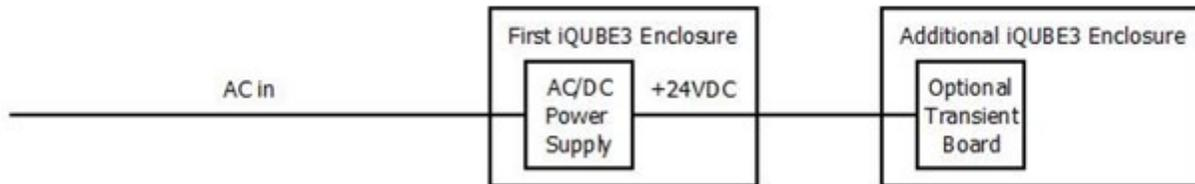

Figure 1-2. iQUBE3 with Internal 115/230 VAC power supply
- Internal 115/230 VAC power supply (Figure 1-2)